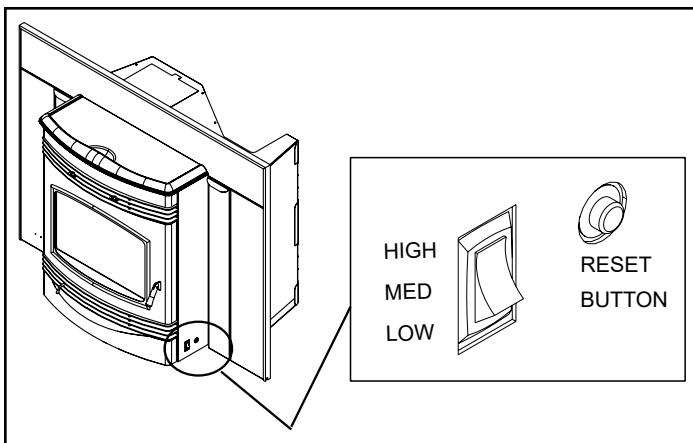
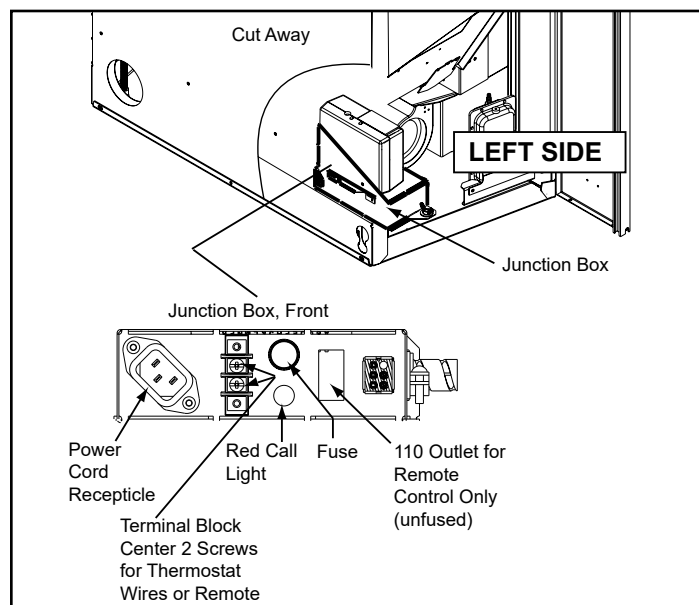

Figure 10.1
Figure 10.2
2. **Heat Output Controls:** This appliance is equipped with a heat output control switch that has three settings or burn rates; low, medium and high (**Figure 10.1**). The appliance will turn on and off as the thermostat demands. When the thermostat calls for heat, the appliance will always start up on High. After burning approximately 4 minutes, the appliance will then burn at the rate at which it was originally set. If the appliance is set at one of the lower settings, it will run quieter but takes longer to heat up an area than if it were set at a higher burn rate. Regardless of the burn rate, when the area is warm enough to satisfy the thermostat, the appliance will shut off.
3. Locate the heat output control switch on the lower right side of the firebox in front of the right access panel. Set to the HIGH setting and then adjust the thermostat to its highest setting. The red call light will be on which is located on the front of the junction box behind the left access panel. This indicates the thermostat is calling for heat (**Figure 10.2**).
3. Occasionally the appliance may run out of fuel and shut itself down. When this happens, the red call light will be on (**Figure 10.2**). To restart it, fill the hopper and press the reset button (**Figure 10.1**). When you press the reset button the red call light will go out. Release the button and the light will come back on. You should see a fire shortly. If not, follow Section H **Starting Your First Fire**.